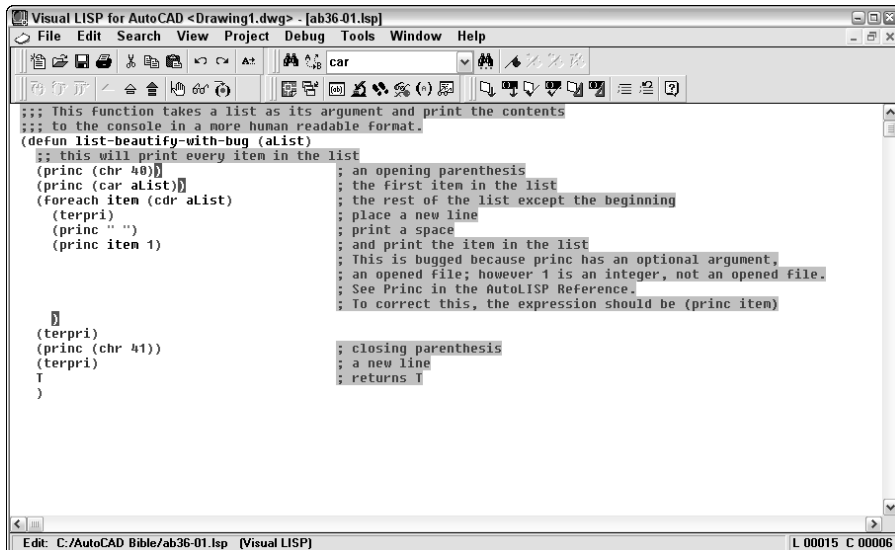

Figure 36-3: Your code should look like this after you place three break points.
9. Place another break point after `(princ (car aList))`. Finally, place a third break point after the closing parenthesis on the line that follows `(princ item 1)`. Your code should look like Figure 36-3.